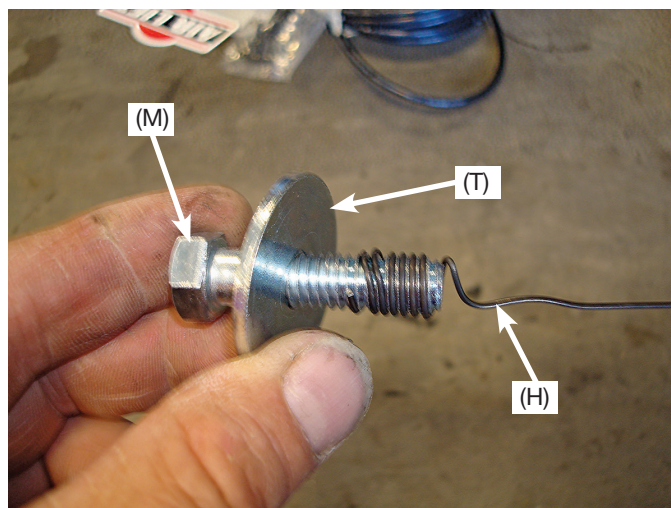

Fig. 16
- Install a large flat washer (T) over the hex-head bolt (M) and thread the wire bolt leader tool (H) onto the threads of the bolt (fig. 16).